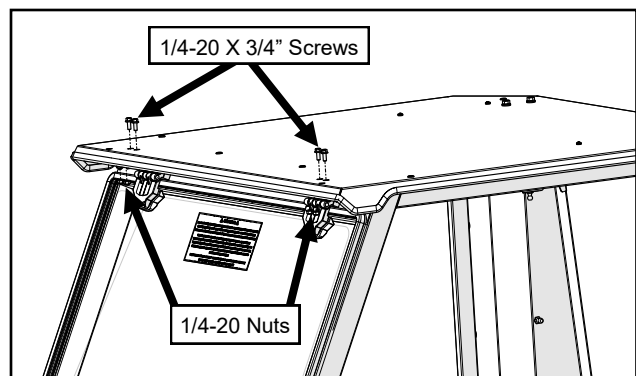

Fig. 4.3 (Hinge Sleeve to Roof Fasteners)
- 4.3 Loosely fasten the hinge sleeves to the roof as shown in Figure 4.3.